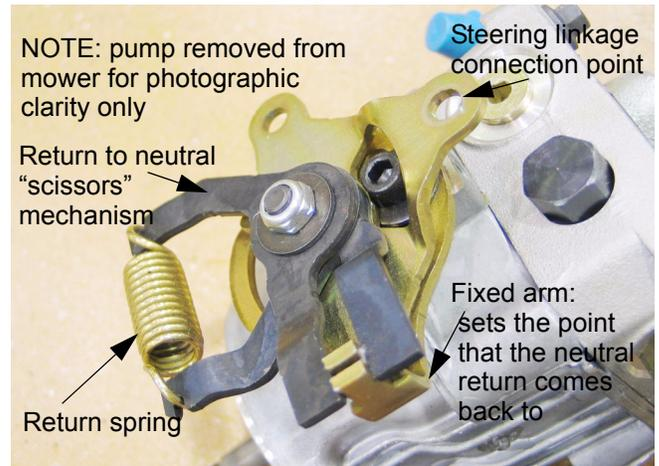

Figure 18.1
- 18.1. Before proceeding with the adjustment make a careful inspection of the return-to-neutral mechanism on the hydro pump. See Figure 18.1.